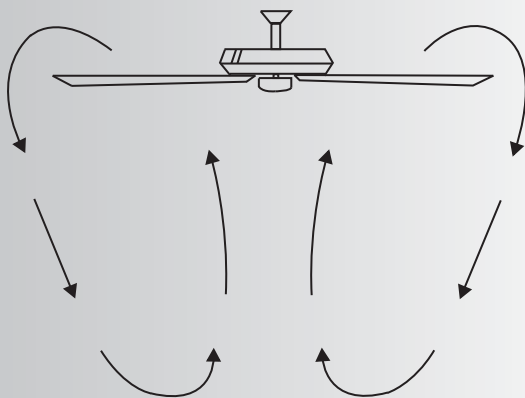

Fig. 24
**Cool weather - (Reverse)** An upward airflow moves warm air off the ceiling area as shown in Fig. 24. This allows you to set your heating unit on a cooler setting without affecting your comfort.